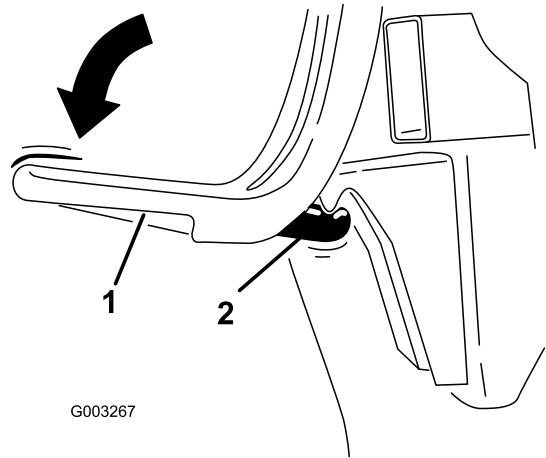

Figure 12
8. Position the bagger latch under the latch hook (Figure 12).
9. Push down on bagger latch until it locks into place (Figure 12).